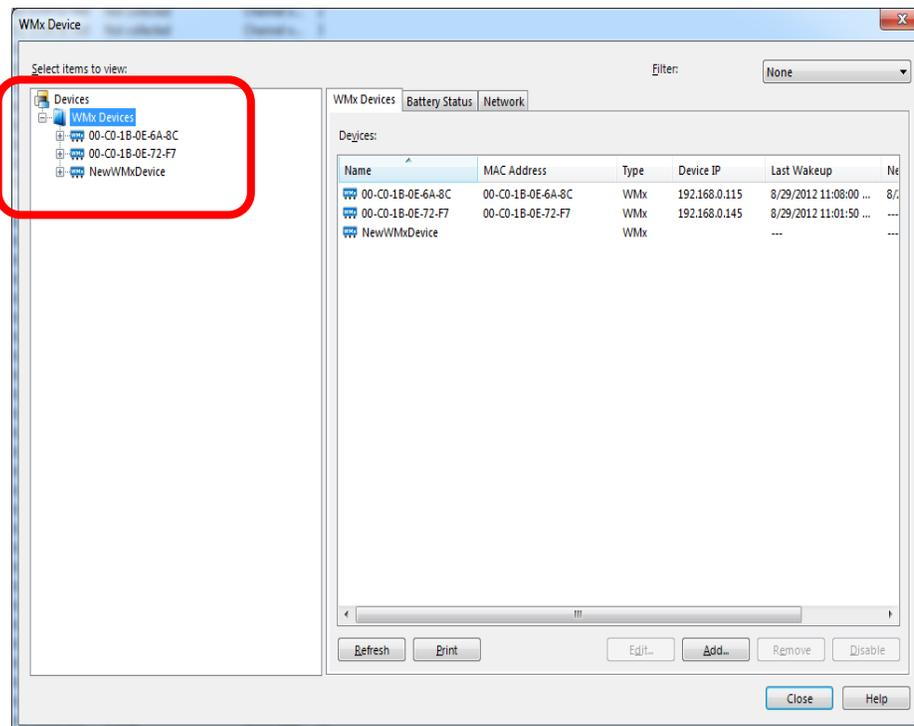

Figure 15. WMx devices in @ptitude Analyst
3. A dialog will be displayed with a list of available WMx devices. [Figure 15]